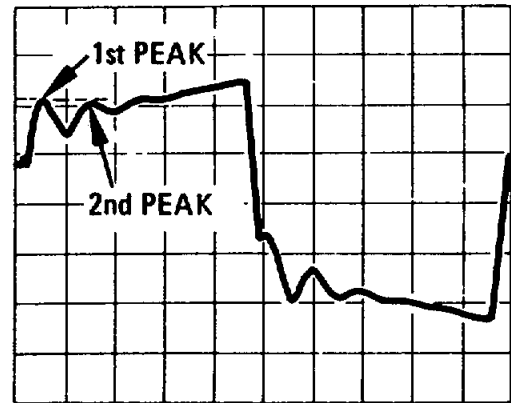

Figure 5-12. APC Sampler Adjustment.
4. Switch the oscilloscope to Channel B. Adjust the square-wave generator FREQUENCY and SYMMETRY controls, and the oscilloscope TRIGGER control for a steady, single waveform as shown in Figure 5-12.